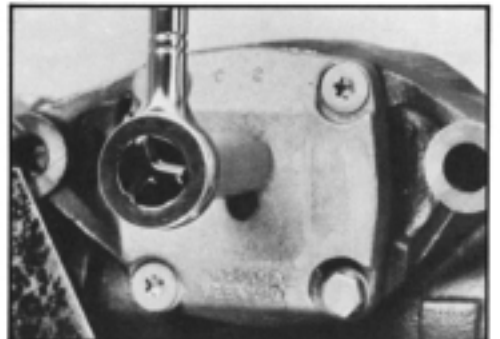

Figure 49
7. Loosen sector shaft adjusting screw jam nut (40). SEE FIGURE 49. 3/4 inch socket required.